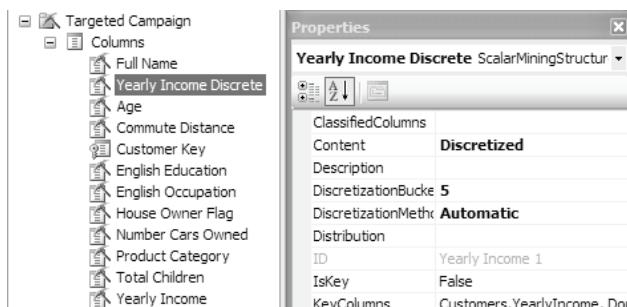

Figure 7.17 You can discretize structure columns with algorithms that don't support the continuous content type.
- In the Properties window, change the column content to *Discretized*, the DiscretizationBucketCount property to 5 and leave the DiscretizationMethod to *Automatic* (see Figure 7.17). As a result of these changes, the server will group the customers into five income buckets.